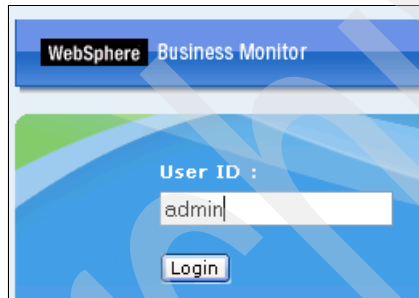

Figure 5-96 Logging into the Business Dashboard
2. When prompted for the User ID, type `admin` and click **Login** (Figure 5-96). The admin user login is required because all alerts are sent to this user ID.